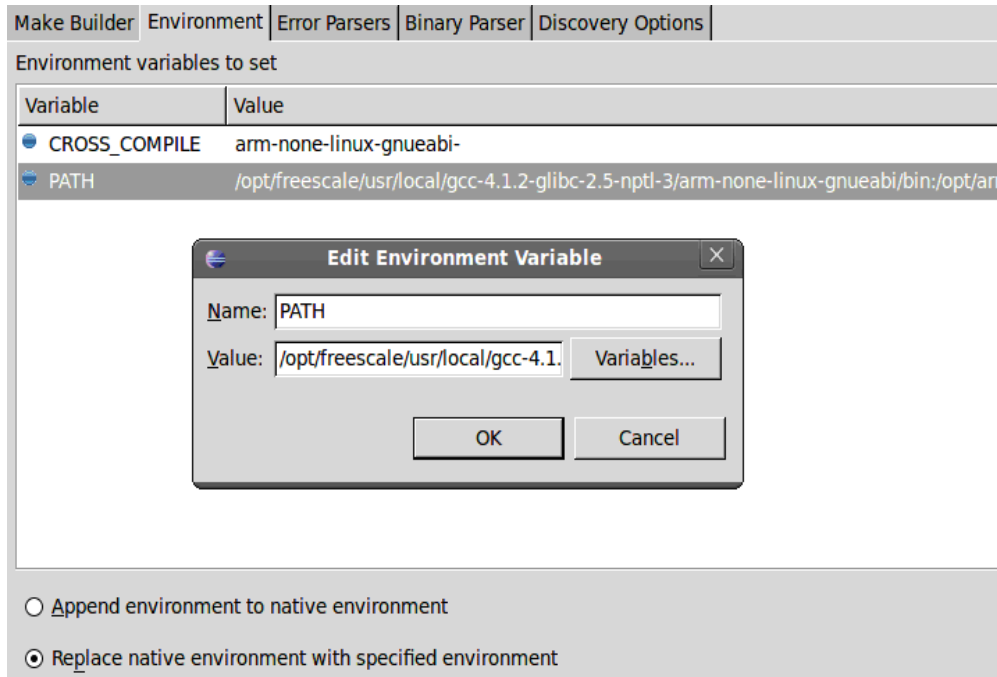

Figure 4. Environment Variables in Eclipse Make Builder
- Add the environment variables listed in Table 5. (See Figure 4)
Figure 4 shows the environment variables in the Eclipse make builder.